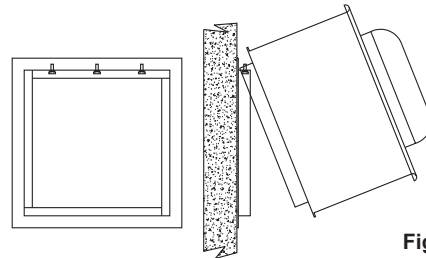

Figure 1
**WALL MOUNT (80-200):** If wall mounted, provide an opening sufficient for enclosing the curb cap. Securely fasten to the wall through the cap. Fan breather tube should be on the side of the fan at a 90° angle from vertical. A wall mounting adapter option is available from the manufacturer. Refer to Form 613121 included with the adapter for instructions. (see Figure 1)